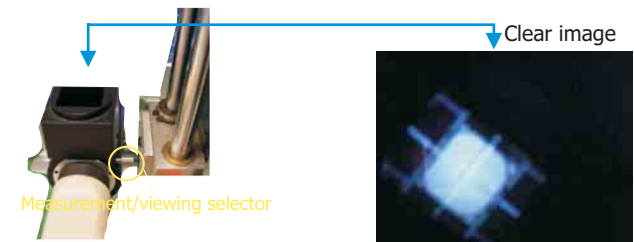

Fig.7
2.7 Move the Lens barrel forward or backward to get clear image as shown in Fig. 7